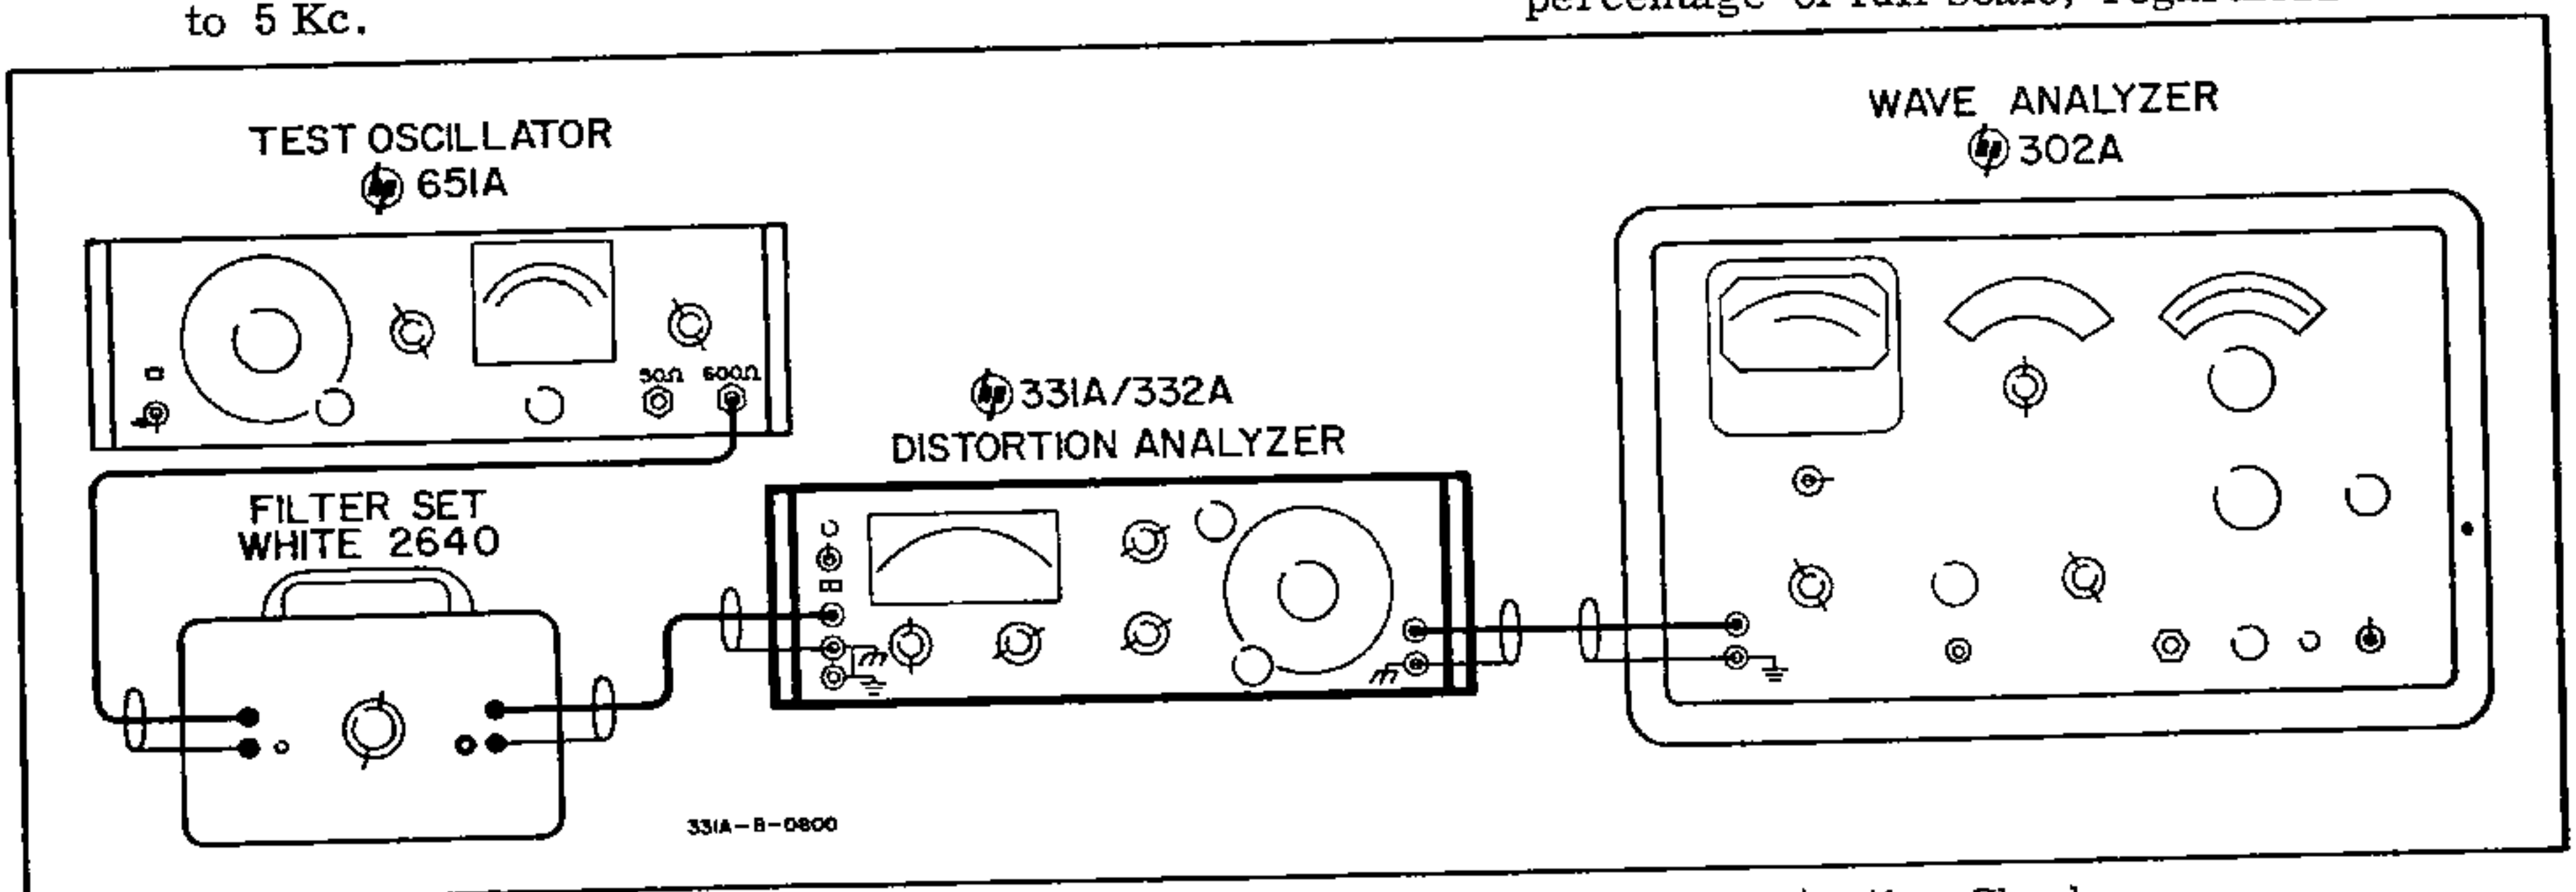

Figure 5-1. Test Setup for Fundamental Rejection Check.
- a. Connect 331A/332A as shown in Figure 5-1.